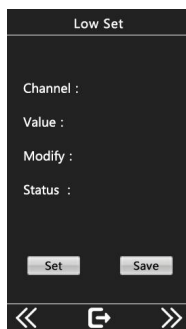
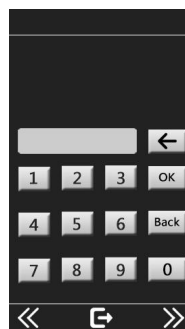

Figure 7
Figure 8
A) Select "low/high alarm setting" from the system function and enter the alarm setting interface. As shown in figure 7
press the button of setting (blue mark in FIG. 7) to display FIG. 8, enter the corresponding value of setting, and click save (red mark in FIG. 7). Click exit to return to the detection interface